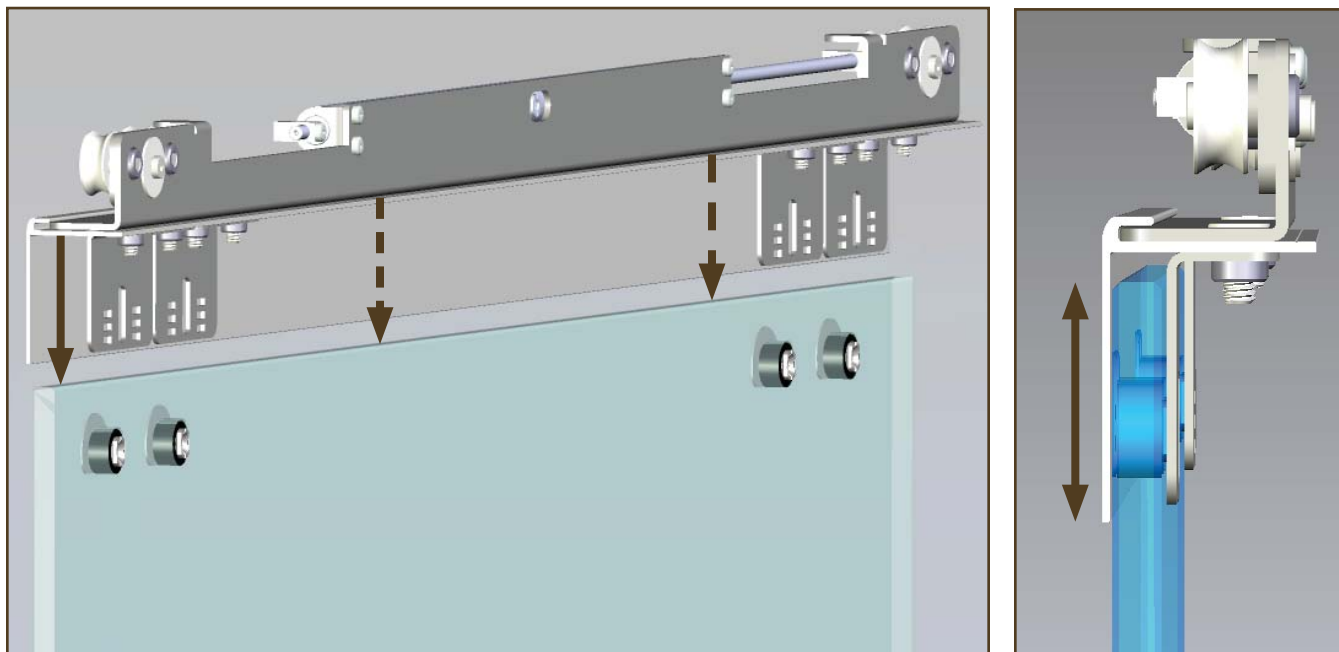

Figure 7. Slide Glass (with Retainer Weldment, Retainer Pad, and Support Spacers attached) within the Glass Hanger Assemblies.
STEP 5. With the Glass Door standing or laying on the floor if preferred, adjust the height of the Glass such that it will freely move above the guide but will still remain captured by the guide (Figure 7); about $\frac{5}{16}$ " (8mm) off the floor.